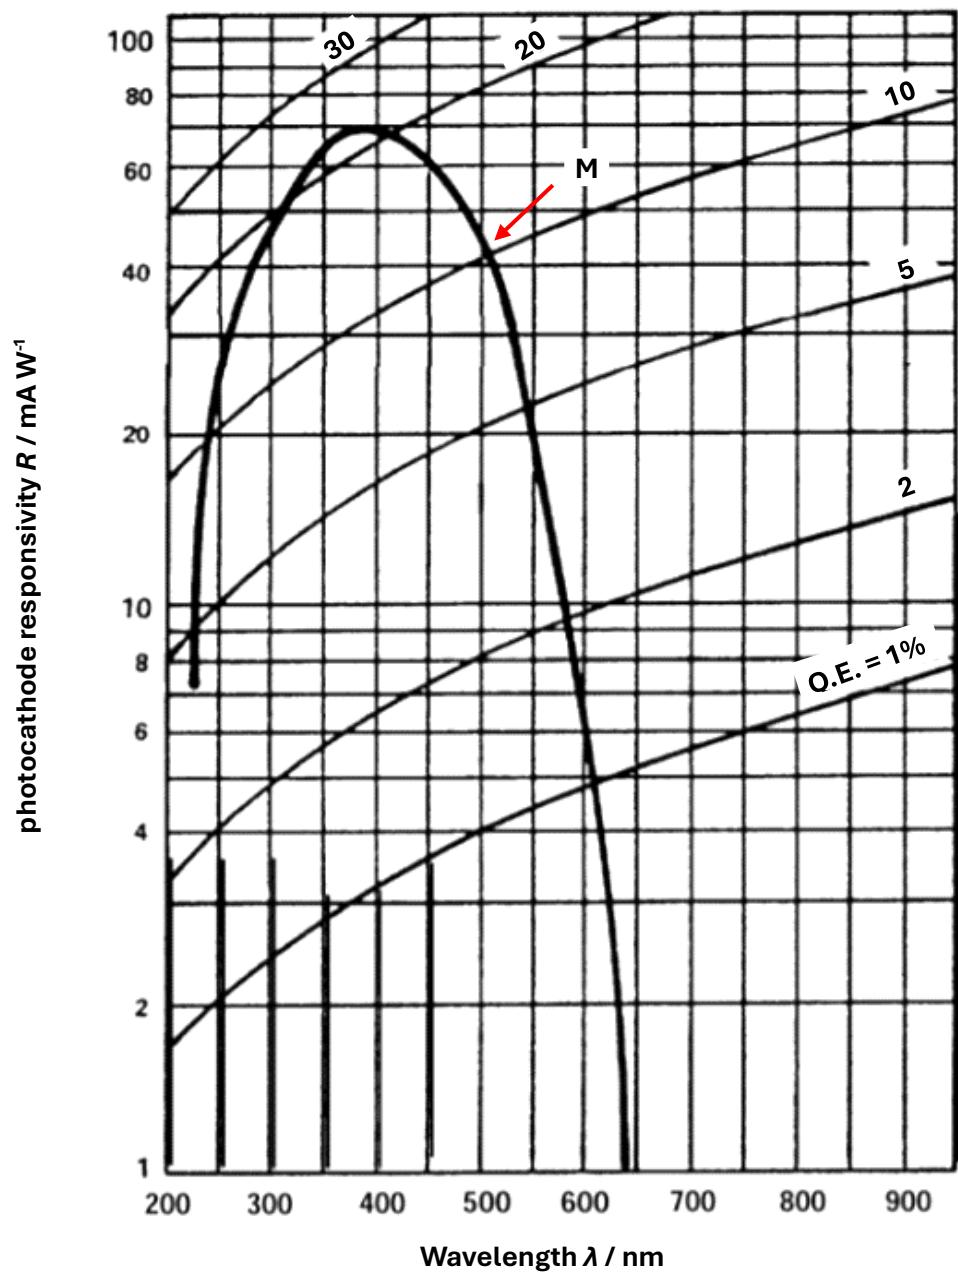

Fig 7.2
Fig. 7.2 shows the graph of photocathode responsivity R versus wavelength of incident light λ and some of Quantum Efficiency (QE) lines of a metal used as photocathode in the PMT. The intersections of the graph and the QE lines show the Quantum Efficiencies at various wavelengths.
For example, when the graph and the QE lines intersect at M as shown in Fig. 7.2, it means that the number of electrons collected at the anode per unit time is 10% of the total number of incident photons per unit time when a light of 510 nm is incident on the photocathode.
- (iii) With reference to Fig. 7.2, state the threshold wavelength and explain how it was determined.
(ii) Hence, using Fig. 7.2, calculate the number of incident photons per unit time on the photocathode.
- (iii) From Fig. 7.2, the photocathode responsivity of the PMT can be estimated to be 4.8 mA W^{-1} . Use your understanding of current and power, suggest the meaning of 4.8 mA W^{-1}
Using Fig. 7.2, show that for the photocathode used in the PMT, this relationship is true when η is 5 %.
- (iii) Hence, plot the line $\eta = 3\%$ on Fig. 7.2. [2]